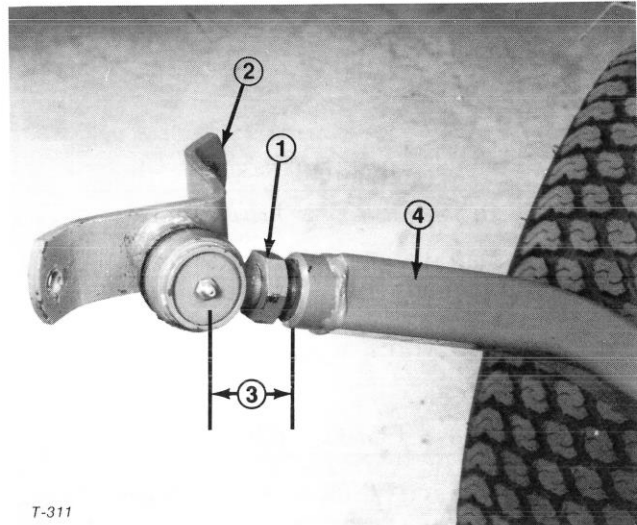

Figure 13
2. Screw ball joint into right hand push arm until center of ball joint is 2-3/8 inches (60 mm) away from front of push arm (Fig. 13). Do not tighten jam nut.